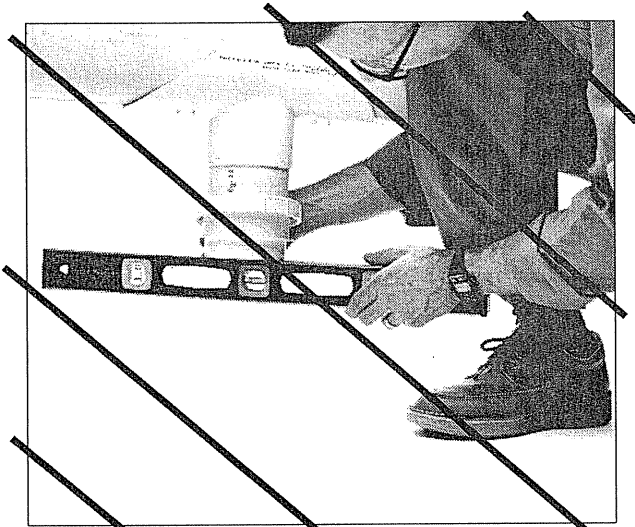

Figure 9
11. Level the manifold section which attaches to the dropleg so that the air distributor connections are plumb vertically for raised manifolds or level horizontally for in-line manifolds. See Figures 9 and 10.